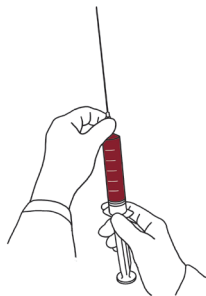

Figure 5
1. Remove syringe tip cap from syringe, then attach a sterile cannula (Figure 5).